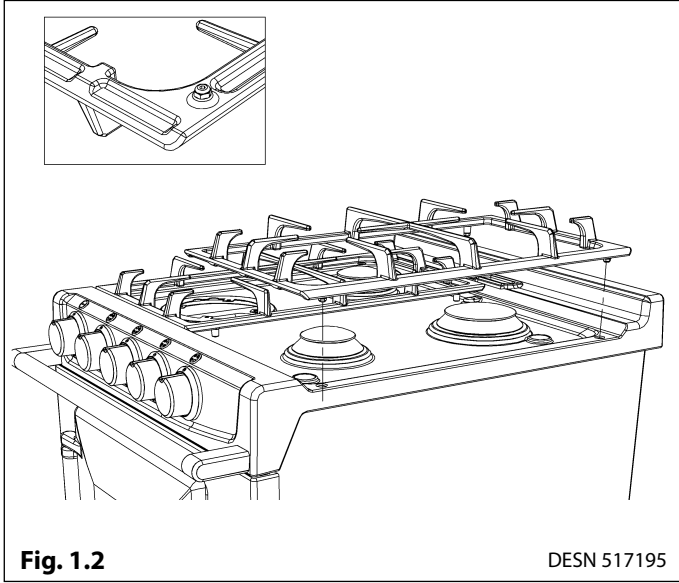

Fig. 1.1
- Place all pans centrally over the burners. The flames must be on the base of the pan. **DO NOT** allow the flames to go up the sides of the pan. (See **Fig. 1.1**).